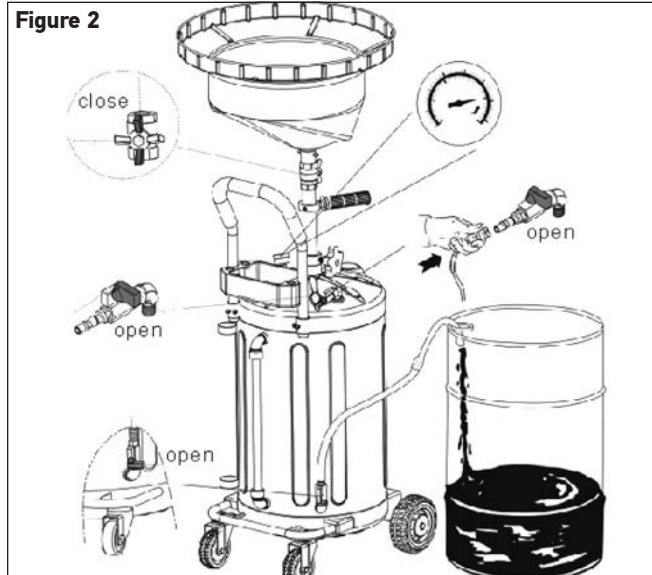

Figure 2
3. Emptying Reservoir Reference Fig. 2 & 3